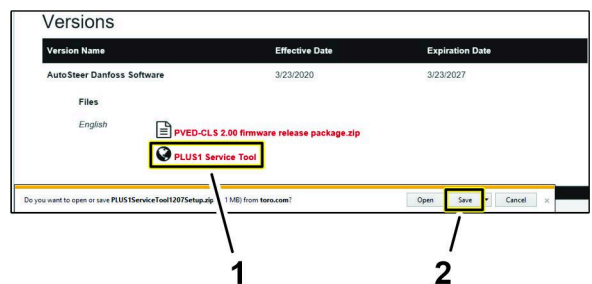

Figure 18
7. On the Document Information page, click the Plus1 Service Tool hyperlink (Figure 18).
8. Click the Save button (Figure 18).